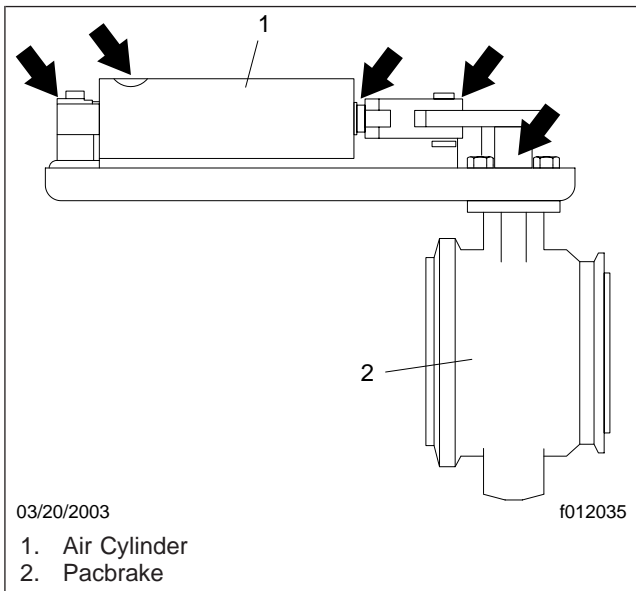

Fig. 3, Pacbrake Exhaust Brake Lube Point Locations
1. With the engine turned off, use Pacbrake Synthetic Lube or Synco Super Lube, and spray or coat a sufficient amount on the restrictor air cylinder valve shaft and the attaching locations at each end of the actuation cylinder. See Fig. 3 for the exhaust brake lubrication points.